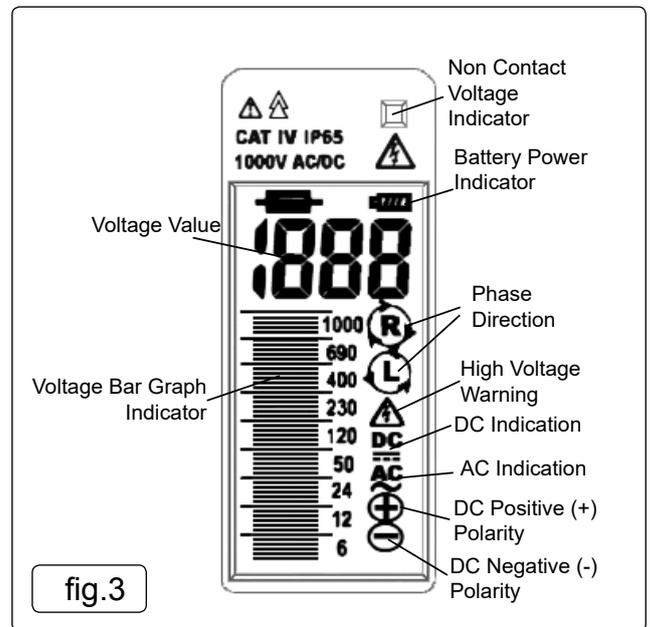

fig.3
- 4.1.2. All indicators on LCD will light up (fig.3), and buzzer will sound during the normal self-diagnostic test.